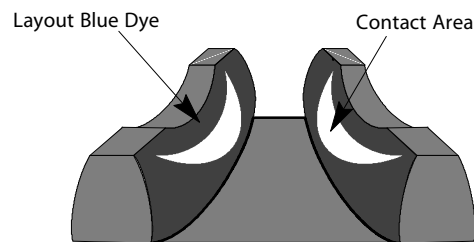

Figure 39 - Ideal Gear Pattern Wear
12. Verify that the gear pattern wear matches the ideal gear pattern wear. See Figure 39.